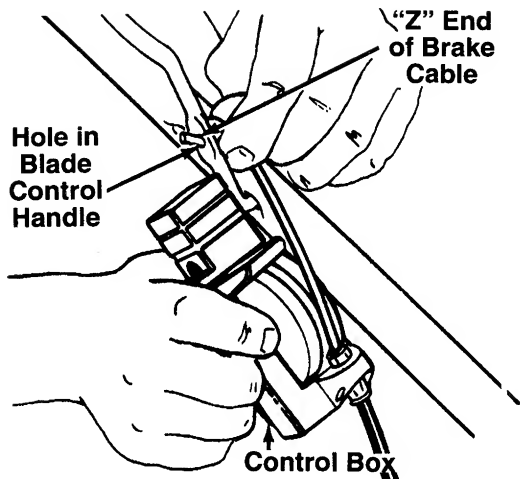

FIGURE 3.
NOTE: If the brake cable is not attached to the control box, insert the "Z" end of the cable into the control box as shown in figure 3. Push the plastic fitting until it locks into the control box.
4. Hook the "Z" end of the brake cable into the blade control handle from the **outside** to the **inside**. See figure 3.